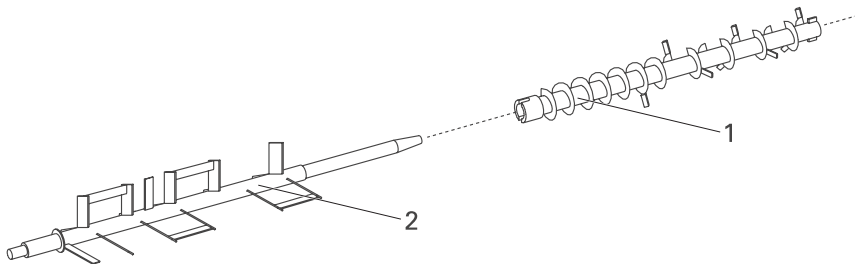

Fig. 8: Mixing and portioning shaft
- Insert mixing shaft (fig. 8, 2) into portioning shaft (fig. 8, 1)